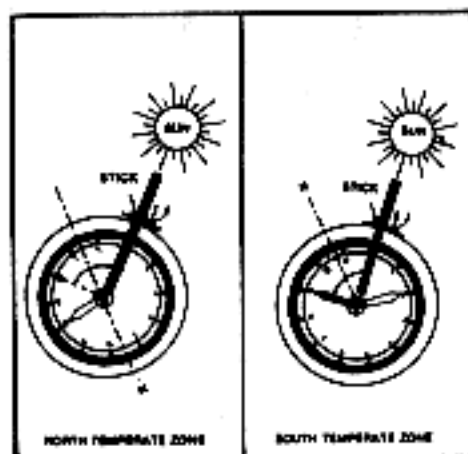

Figure 11-2. Watch method
b. Watch method. You can also determine direction using a watch (figure 11-2). The steps you take will depend on whether you are in the northern temperate zone or in the southern temperate zone. The northern temperate zone is located between 23.4 north and 26.6 north. The southern temperate zone is located between 23.4 south and 66.6 south.